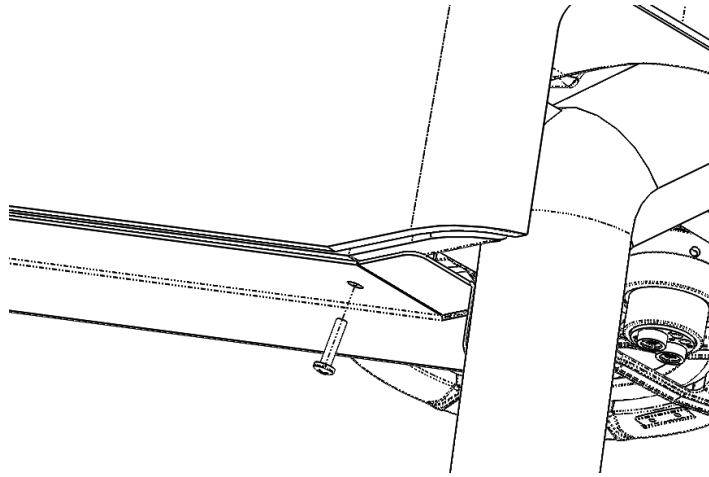

Figure 23: Attach the bracket to the roof using #8 sheet metal screws.
28. Attach the bracket to the fiberglass roof using seven of the supplied #8 sheet metal screws as shown in Figure 23.